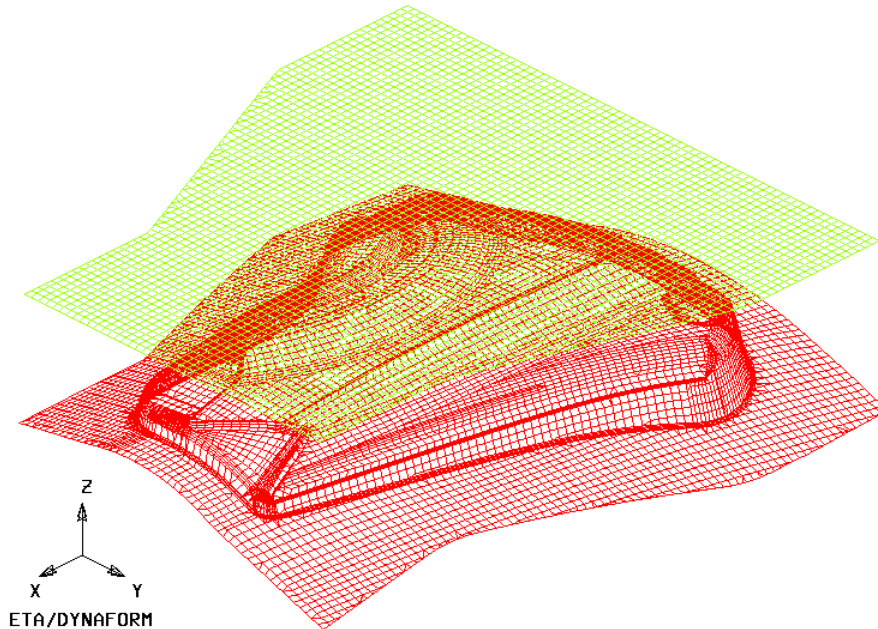

Figure 1.2 Illustration of fender model
2. Go to the training input files located in the CD provided along with the eta/DYNAFORM installation, and open the data file named **single_action.df**. The parts, as illustrated in Figure 1.2, is displayed in isometric view on the display area.